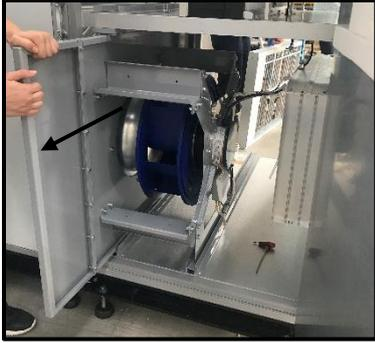

Fig. 38
4. Remove the fan slowly and carefully (Fig. 38)